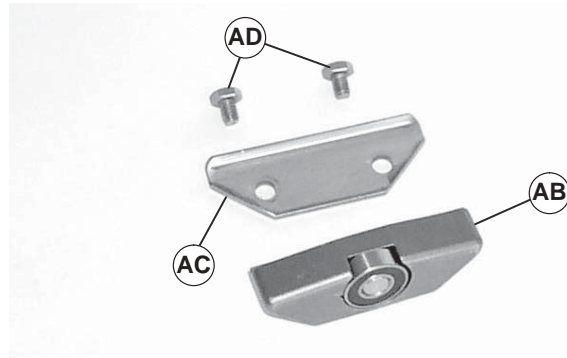

Figure 11
1. Return roller components (Figure 11).